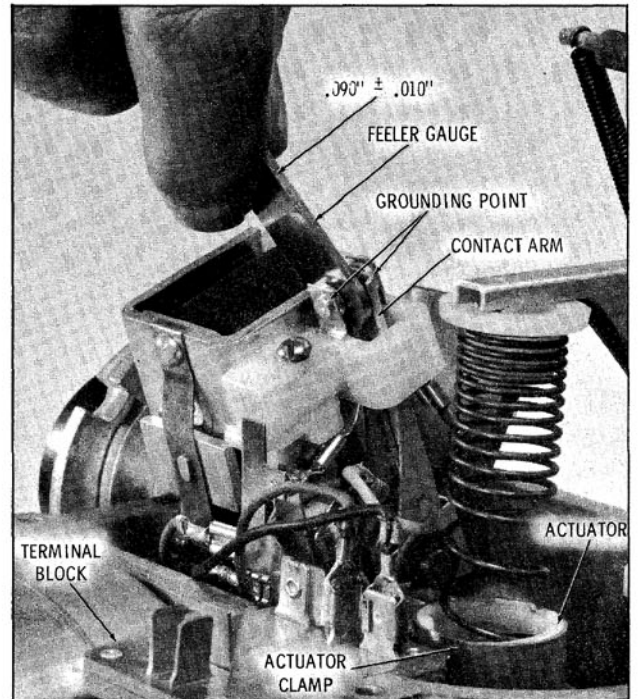

Fig. 12-49 Checking Grounding Points
3. Move contact arm against either grounding point and use a feeler gauge to measure the full gap between contact arm and other point. (Fig. 12-49) This gap must be $.090'' \pm .010''$. If gap is not within specifications, carefully bend either grounding point on point adjuster until proper gap is obtained.